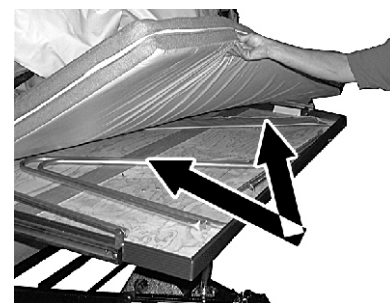

Fig. 9
**NOTE:** The bed braces and bed bow braces are stored under the bed mattress. (Fig. 9)
6. Remove the bow braces located in the bed and slideout areas from the roof bracket and pull the brace to the center of the trailer. Remove the bow brace from the saddle plug on the bed bow. Place the bow braces under the bed mattress. (Fig. 9)
10. Remove the curved bed braces. Place all braces under the bed mattresses carefully. (Fig. 9)